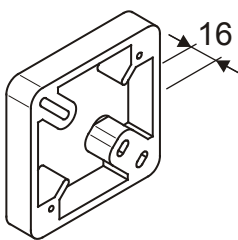
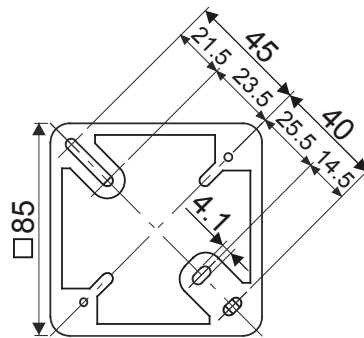

Fig. 7
Fig. 8
1. Mount the additional frame AI330 on a wall or recess-mounted socket using two screws, \varnothing max. 4 mm (Fig. 7, Fig. 8).